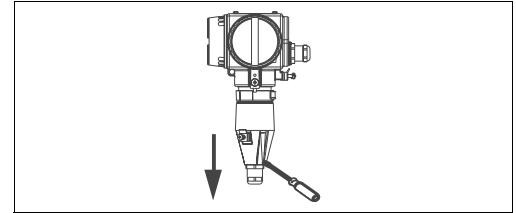

Fig. 20: Connection hood pulling-off
1. Loosen the fastening screws and pull off the connection hood (Fig. 20).